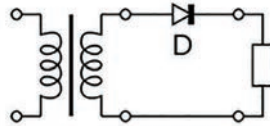

Figure 3.42 Ch 3 - No. 6, self-test
8. Determine the peak secondary voltage, the peak output voltage, the PIV, and the average output voltage for the circuit in Figure 3.42, if the turns ratio of the transformer is 2 (1:2) and the peak input voltage is 120 V. (Assuming two silicon diodes)